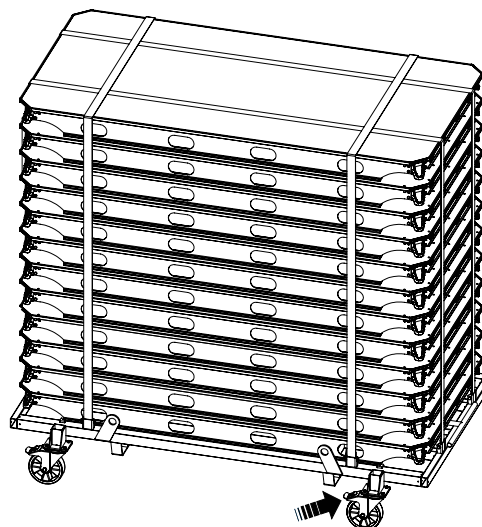

Fig. A1.06
2. Once reached at desired location, apply the brakes and put the handle (4.5) back to its position. (Fig. A1.06)